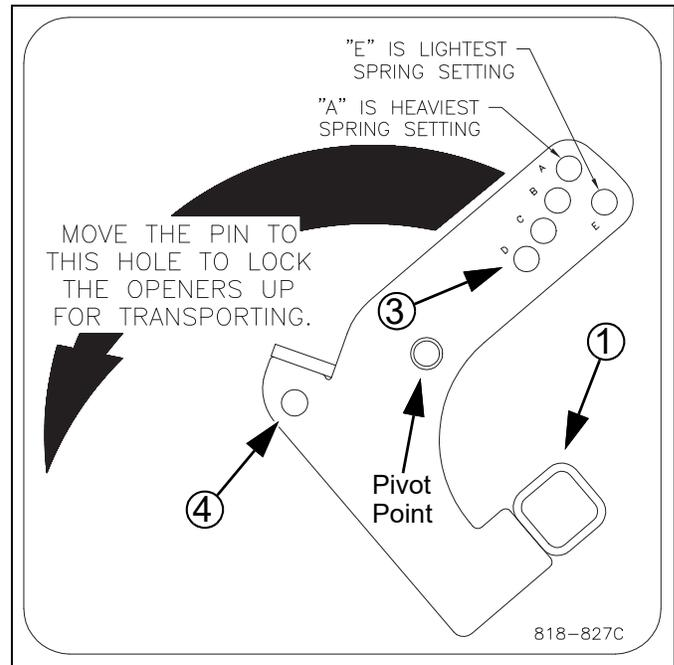
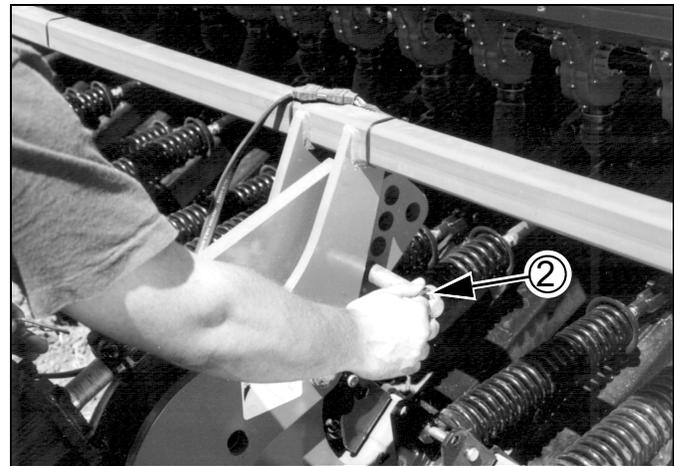

Figure 26
Figure 27
**Refer to Figure 26 and Figure 27**